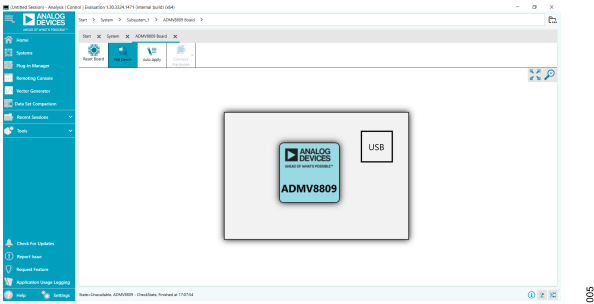

Figure 5. ADMV8809 Board Plug-In View
The **ADMV8809 Board** plug-in view (see Figure 5) includes the following items:
7. Open the ACE Software. The **ADMV8809 Board** appears in the **Attached Hardware** section (see Figure 5). Click **Auto Apply** at the top and double-click on the plug-in to see the ADMV8809 chip plug-in on screen.